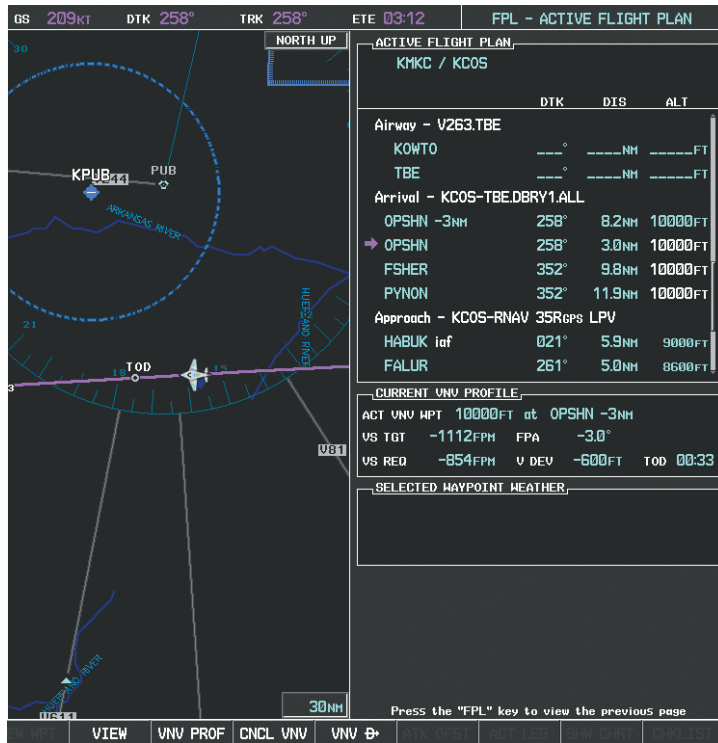
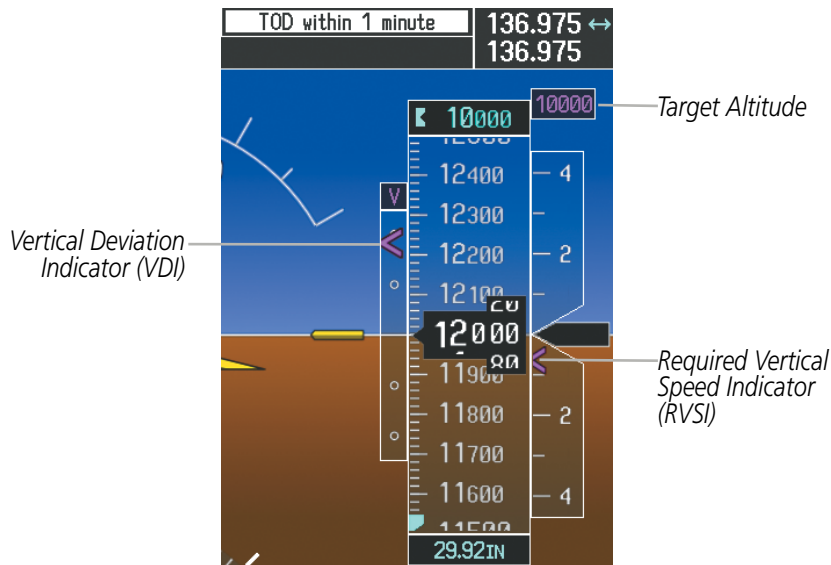

Figure 5-134 Approaching Top of Descent (TOD)
Figure 5-135 VDI & RVSI When Approaching Top of Descent (TOD)
15) As seen in Figure 5-134, the aircraft is approaching TOD. Note the target vertical speed required to reach the selected altitude. The Vertical Deviation Indicator (VDI) and the Required Vertical Speed Indicator (RVSI) are now displayed on the PFD as shown in Figure 5-135. When the aircraft is within one minute of the TOD, it is annunciated as shown in Figure 5-135, and an aural alert 'Vertical track' will be heard.